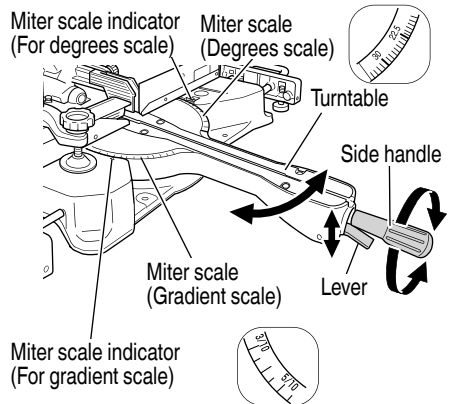

Fig. 35
- (1) Loosen the side handle and pull up the lever for angle stoppers. Then, adjust the turntable until the indicator aligns with desired setting on the miter scale (Fig. 35).
- (2) Re-tighten the side handle to secure the turntable in the desired position.
- (3) The miter scale indicates both the cutting angle on the angle scale and the gradient on the grade scale.
- (4) The gradient, which is the ratio of the height to the base of the triangular section to be removed, may be used for setting the miter scale instead of the cutting angle, if desired.